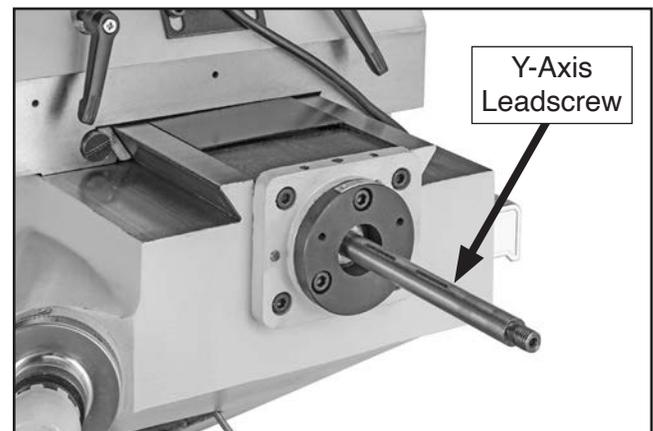

Figure 55. Ball handle, ring, and key removed from Y-axis leadscrew.
2. Remove hex nut and ball handle from Y-axis leadscrew (see **Figure 55**).
3. Unthread and remove knurled retaining ring, graduated dial ring, and leadscrew key (see **Figure 55**).